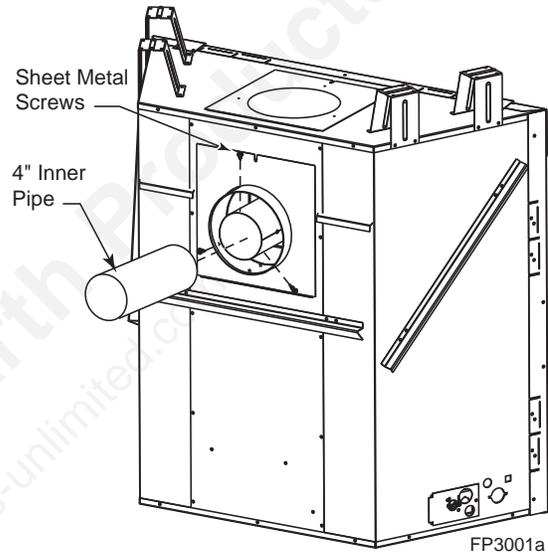
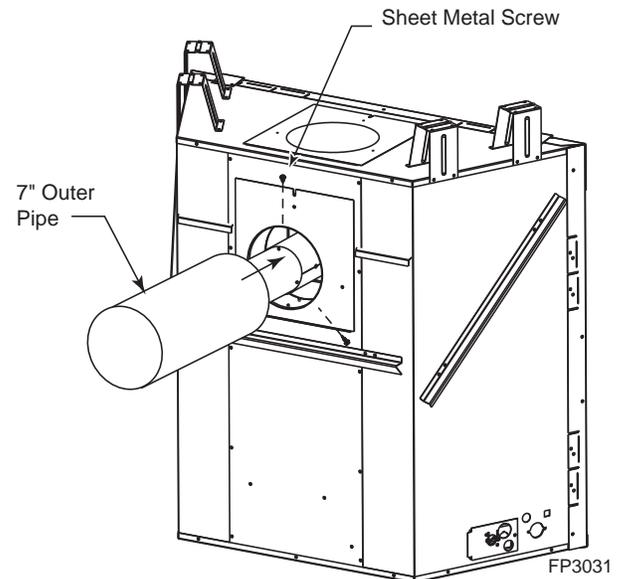

Figure 19 – Install 4" Inner Vent Pipe
Figure 20 – Install 7" Outer Vent Pipe
Install the 4" (102 mm) inner vent pipe to the appliance inner collar and secure with three (3) stainless steel sheet metal screws. *Figure 19*. Install the 7" (178 mm) outer vent pipe to the appliance outer collar. Secure pipe to the rear cover plate using the tabs and three (3) sheet metal screws. *Figure 20*. If a 45° or 90° elbow is being used, attach the elbow to the appliance in the same manner then attach the venting to the elbow.